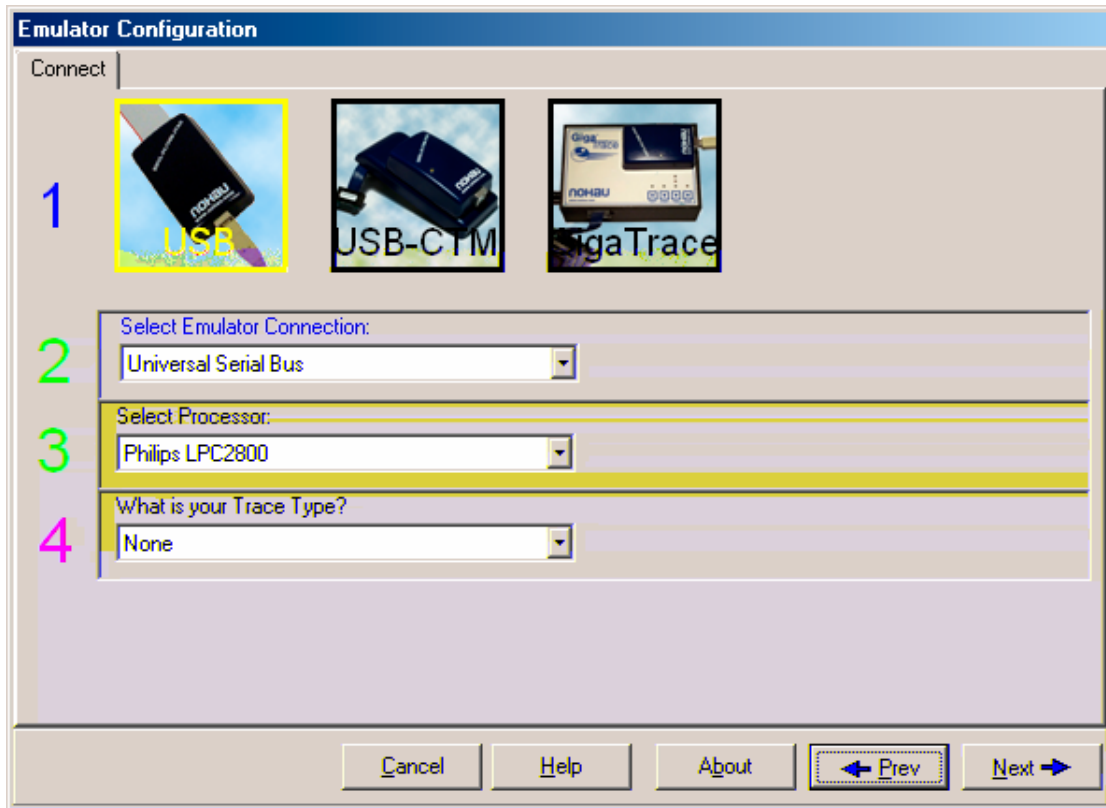

Figure 2-14: Emulator Configuration Window Displaying the Connect Tab
- Select **SeehauARM**, then click **Config** to open the **Emulator Configuration** window displaying the **Connect** tab (Figure 2-14). Please note that it is not necessary to be connected at this time.